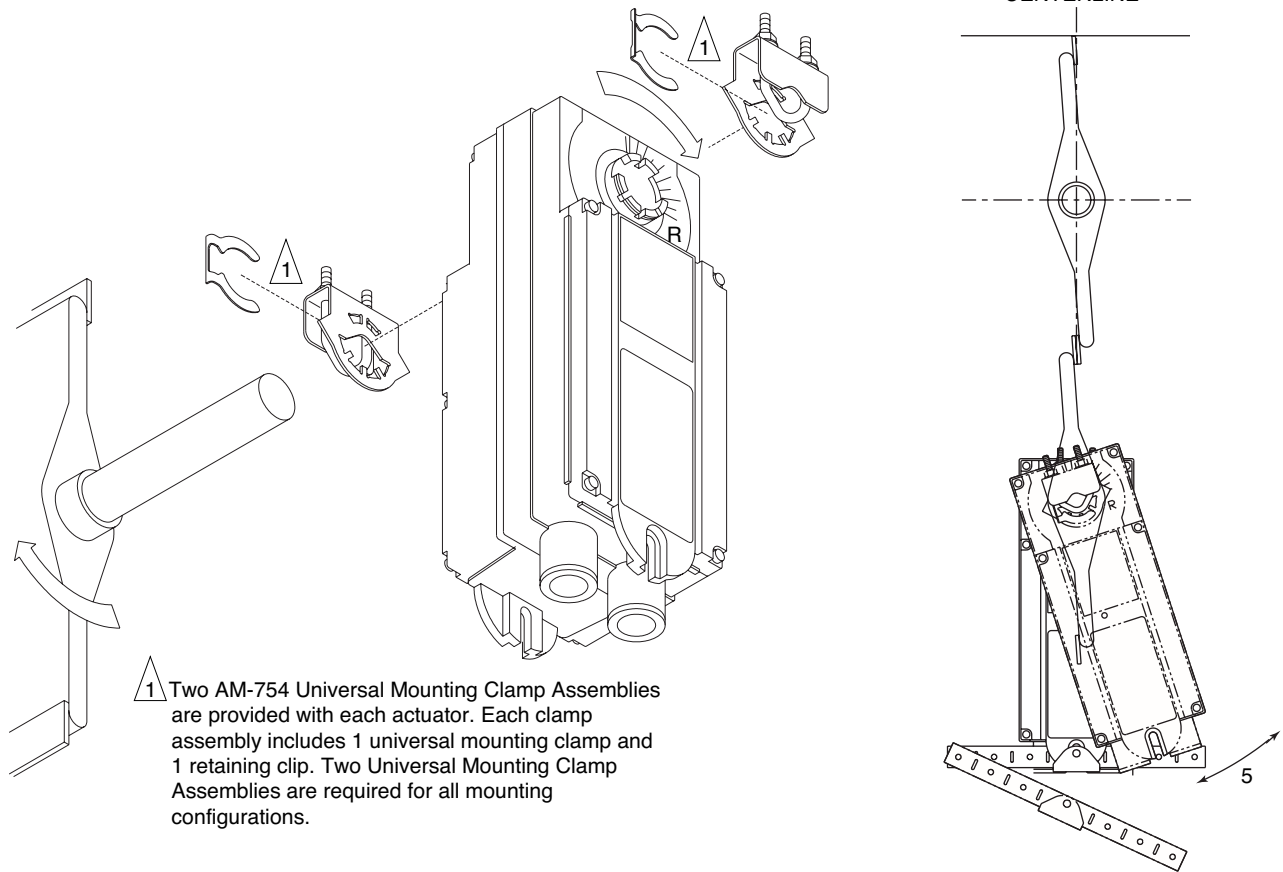
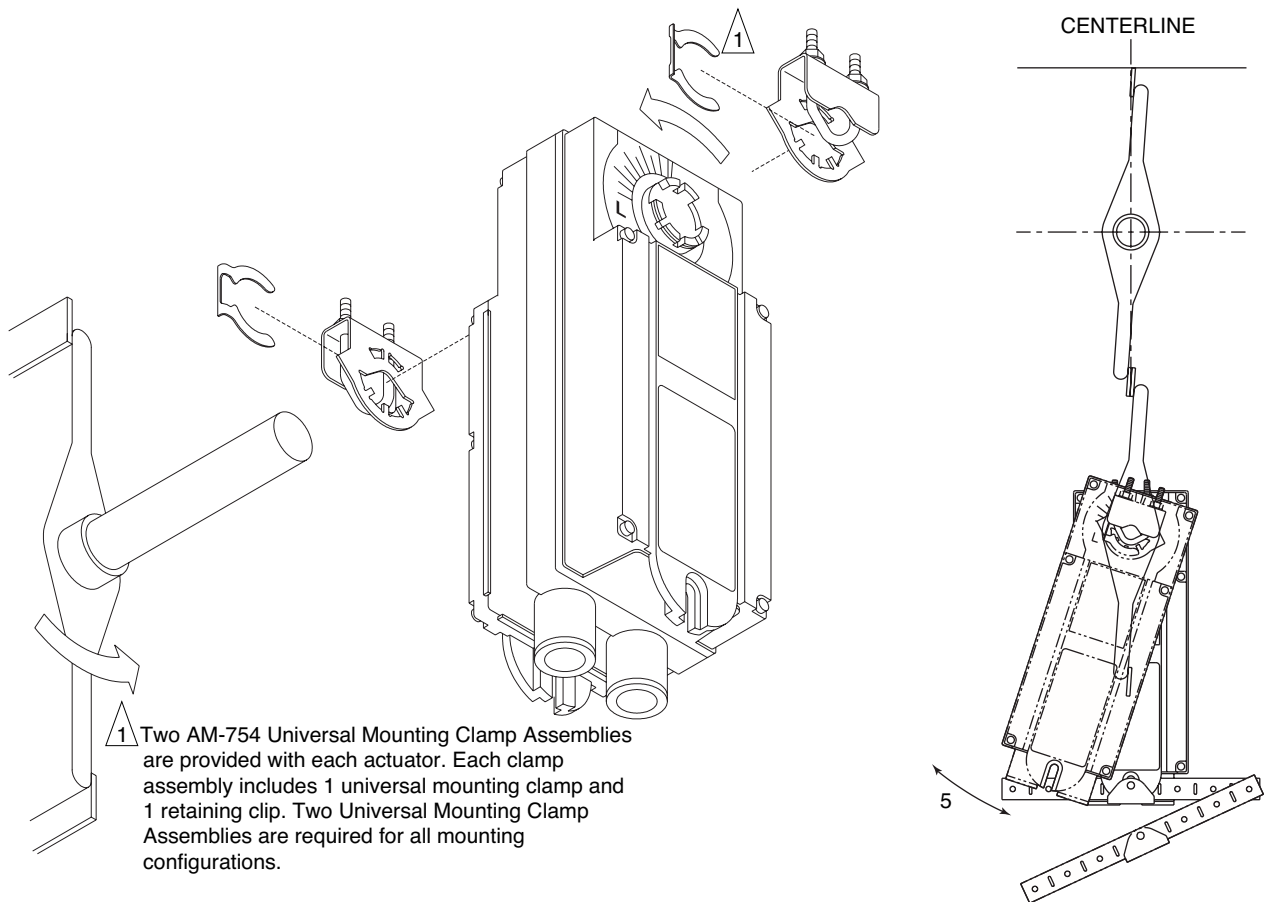

Figure-10 Long Damper Shaft Mounting with Clockwise Spring Return for Normally Closed Damper.
Figure-11 Long Damper Shaft Mounting with Counterclockwise Spring Return for Normally Closed Damper.
- If the damper shaft rotates clockwise to the closed position, mount the actuator with the side marked “R” facing the installer. See Figure-10.
- If the damper shaft rotates counterclockwise to the closed position, mount the actuator with the side marked “L” facing the installer. See Figure-11.
6. Attach one side of the anti-rotation bracket to the mounting surface with one of the screws provided. Leave the screw loose so that the bracket can be rotated. See Figure-10 for clockwise or Figure-11 for counterclockwise spring return.
7. Pivot the anti-rotation bracket away from the actuator. See Figure-10 or Figure-11.
8. Loosen the universal mounting clamps, making sure not to move the damper shaft. Rotate the actuator approximately 5° in the direction which would open the damper. See Figure-10 or Figure-11.
10. Manually rotate the actuator toward the full-closed position to apply pressure to the damper seals. See Figure-10 or Figure-11.
11. Pivot the anti-rotation bracket into place and secure the other side of the bracket onto the mounting surface using the other screw provided with the actuator. See Figure-10 or Figure-11.
12. Verify that the damper is in its full-closed position and actuator at 90° (perpendicular) to the damper shaft. See Figure-10 or Figure-11.
9. Attach one side of the anti-rotation bracket to the mounting surface with one of the screws provided. Leave the screw loose so that the bracket can be rotated. See Figure-10 for clockwise or Figure-11 for counterclockwise spring return.
10. Pivot the anti-rotation bracket away from the actuator. See Figure-10 or Figure-11.
11. Loosen the universal mounting clamps, making sure not to move the damper shaft. Rotate the actuator approximately 5° in the direction which would open the damper. See Figure-10 or Figure-11.
13. Manually rotate the actuator toward the full-closed position to apply pressure to the damper seals. See Figure-10 or Figure-11.
14. Pivot the anti-rotation bracket into place and secure the other side of the bracket onto the mounting surface using the other screw provided with the actuator. See Figure-10 or Figure-11.
15. Verify that the damper is in its full-closed position and actuator at 90° (perpendicular) to the damper shaft. See Figure-10 or Figure-11.